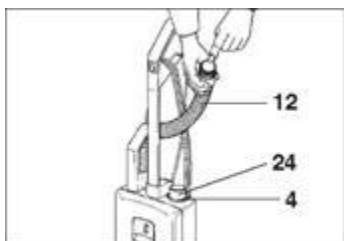

Figure 14
## Clogs in the Attachment Hose -Figure 14
Remove attachment hose (12) from vacuum cleaner (see figure 14) and remove front cover (7). Clean out connecting tube (24) and/or entrance to bag (40).